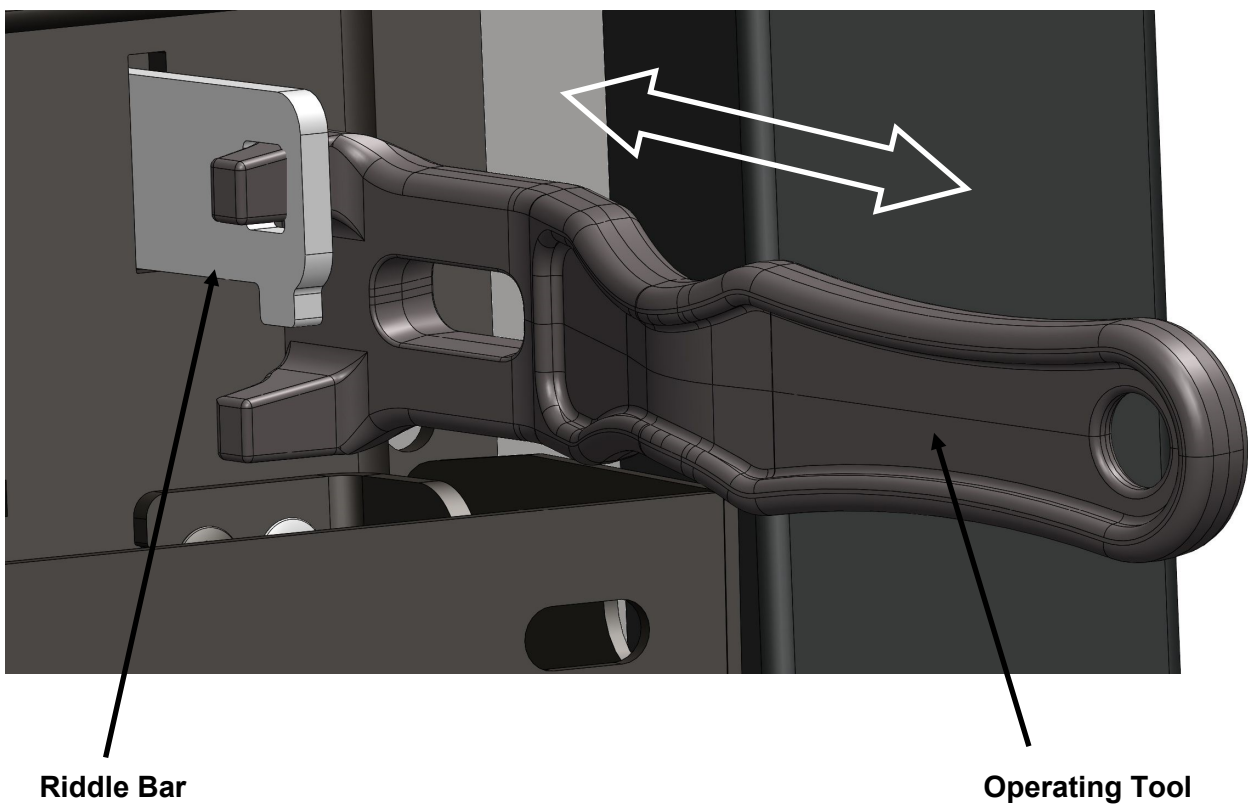

Fig. 4. Riddle Lever
- 7) Whilst burning solid fuel it can be beneficial to occasionally riddle the grate bars so any burnt fuel will fall between the grate bars into the ash pan below. This will ensure a good under draught is maintained. This should be done with the supplied operating tool whilst wearing protective gloves. (See Fig. 4 below)
8) Locate the riddle lever (behind the control door on RH side of stove—see Fig. 4)) engage one of the forks of the operating tool into the rectangular hole within the riddle lever.